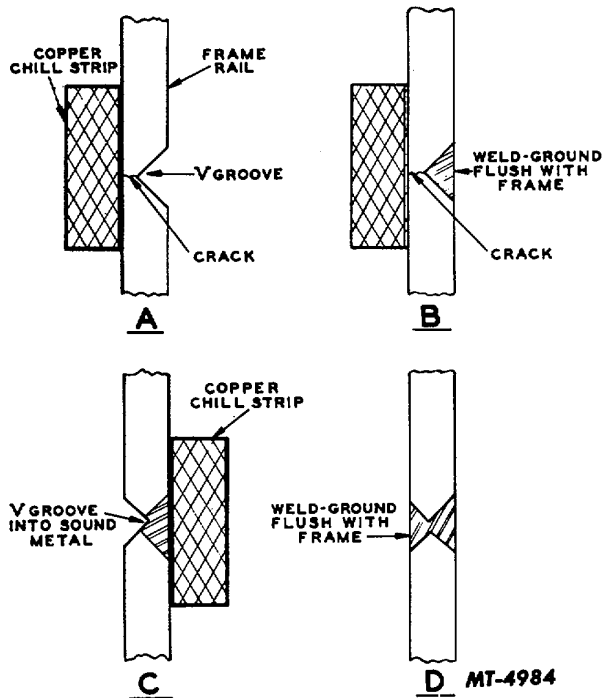

Fig 7.
- a. Grind a V notch or groove extending along the full length of the crack and slightly beyond each end of the crack. A heavy copper strip or "chill" should be clamped to the rail side away from the groove to help control the temperature and cooling rate. See Fig. 7. NOTE: Discarded short lengths of heavy copper electrical bus bars make suitable chills.
- e. When sufficient metal has been deposited, the weld bead should be ground flush, Fig. 7, with the surface being repaired.
of the repair should be deep enough to enter the sound metal of the first weld repair "C" of Fig. 7.